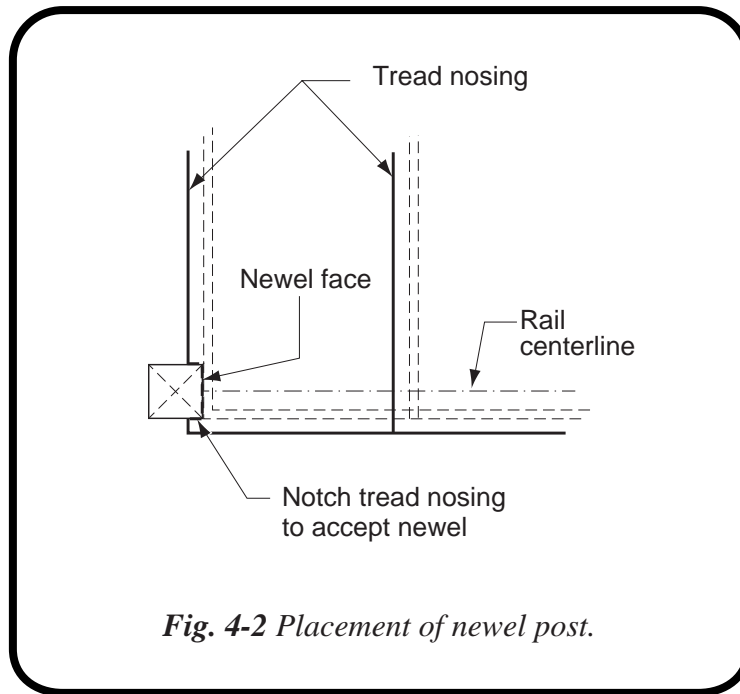

Fig. 4-2 Placement of newel post.
1. After determining the centerline for the rail system (see Chapter 3), draw a square on the tread where the starting newel will be placed. There are no guidelines for the placement of the newel, but it is typically mounted on the face of the first riser. If necessary, notch the nosing of the tread to allow the newel to sit tightly against the frame of the staircase. Please note Fig. 4-2 here.